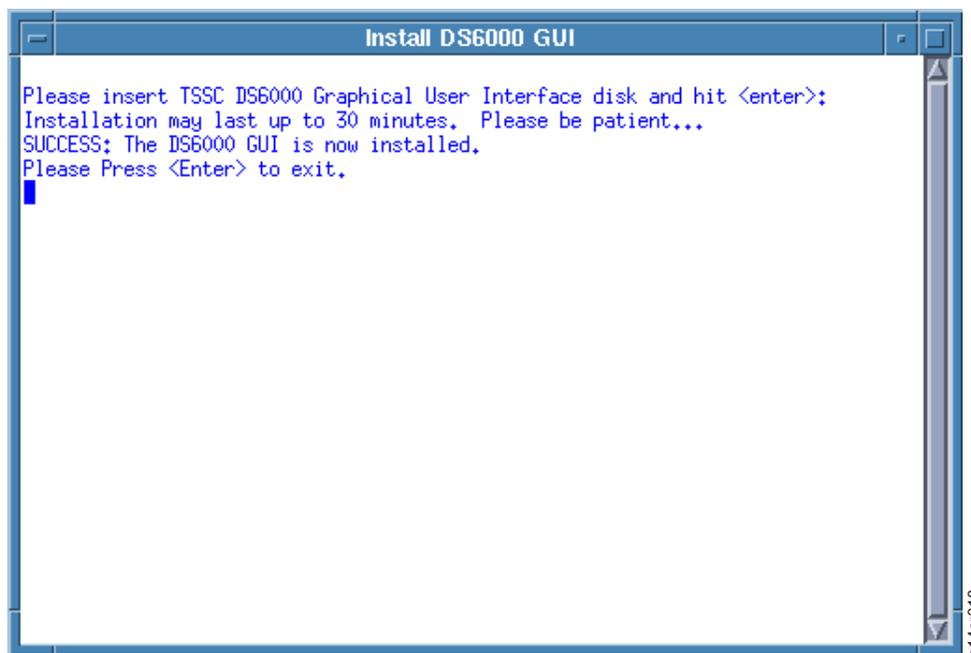

Figure 84. Install DS6000 GUI
Note: The menu-driven command line tool **RAS Menu** can be used as an alternative method to install the GUI. Refer to “RAS Menus” on page 170. The **RAS Menu** will execute the same functions as the system console version. The same screen shown in Figure 84 will appear if the RAS Menu option is selected (**TSSC Menus > External GUI Options > DS6000 GUI Options > Install DS6000 GUI**).
2. From the Main Menu, select **Browser Functions > Storage Manager GUI Functions > Install GUI.** A Terminal window that is similar to Figure 84 on page 61 appears and prompts you to insert the appropriate Storage Manager Graphical User Interface CD-ROM.